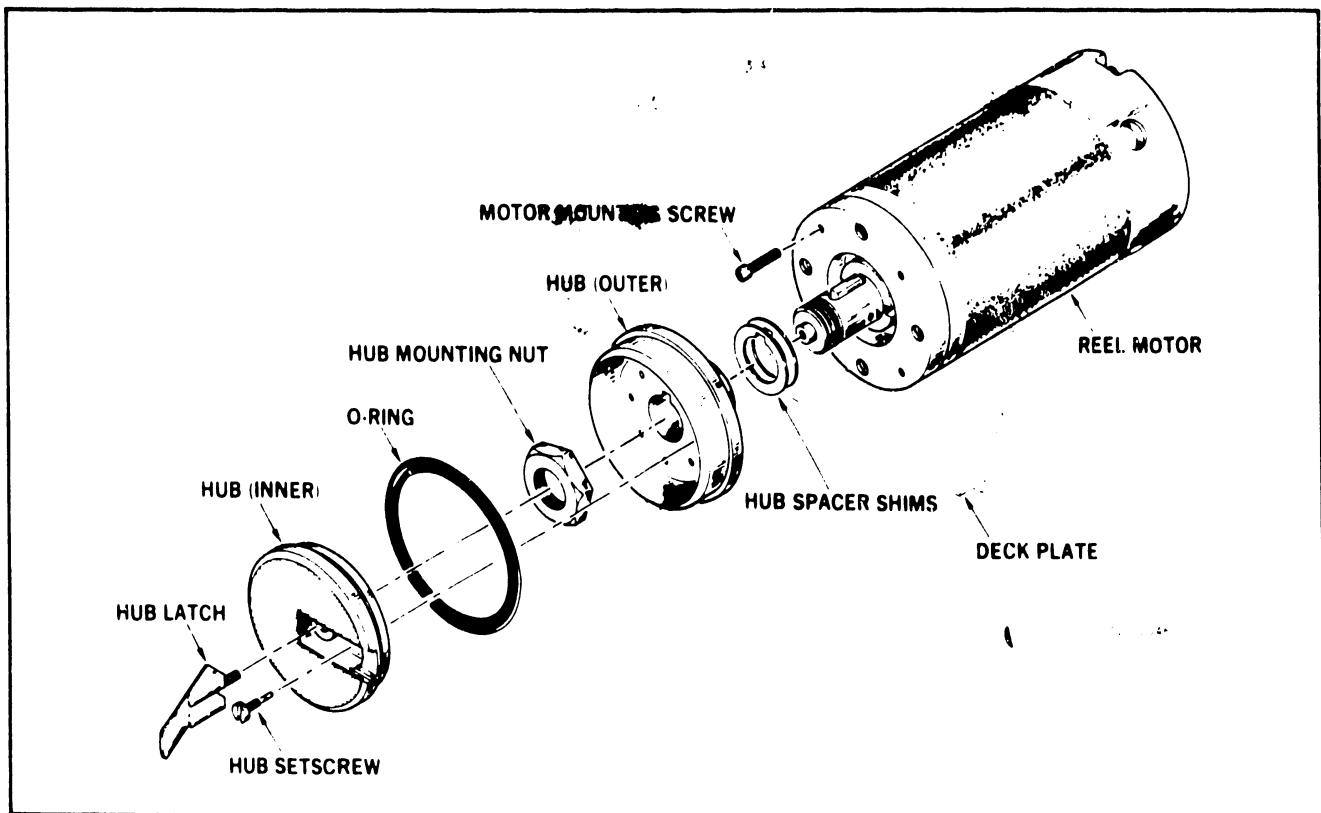

FIGURE 4-89 REEL MOTOR ASSEMBLY
- a. Loosen the hub setscrew (Figure 4-89) until the inner hub turns freely.